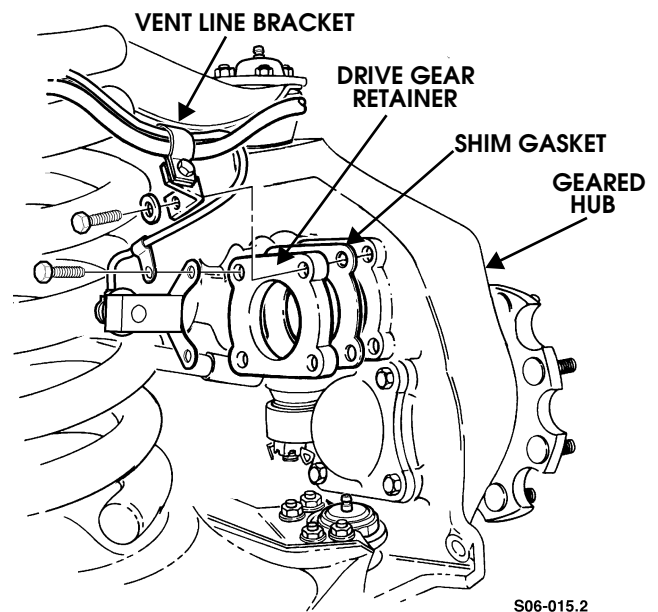

Figure 9-20: Geared Hub Shim Gasket Location
4. Remove bolt, washer, and vent line/speed sensor lead bracket from drive gear retainer (Figure 9-20).
2. Secure shim gasket(s) and drive gear retainer to geared hub with washers and bolts (Figure 9-20).